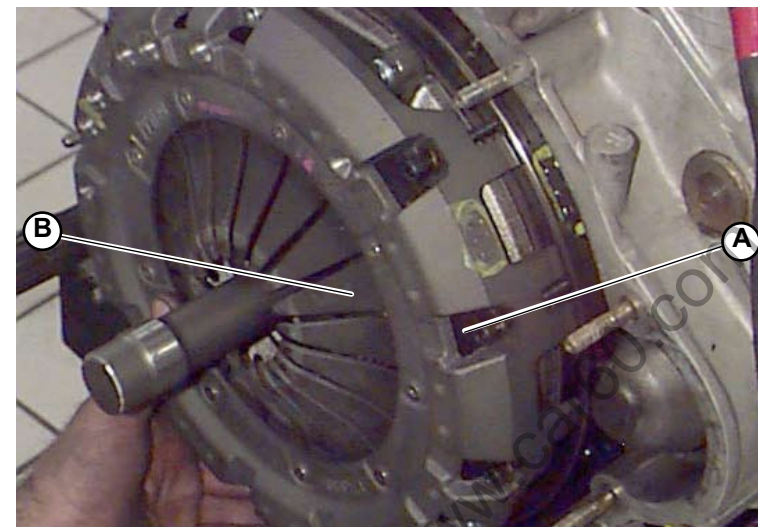

Fig.1
1. Unscrew the disk pusher socket screws (A-Fig.1).
2. Disassemble the disk pusher (B-Fig.1).